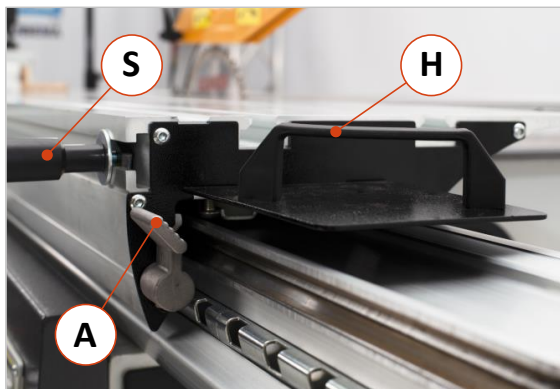

Figure 42: Operating the sliding table
- First lock the sliding table using the clamping lever (A), see ⇒ Figure 42.
- Insert the cross-cut carriage from the left side of the sliding table into the guide groove (F).
- Tighten both clamping levers (H) for fixation.
- If necessary, the cross-cut carriage can be aligned exactly with the sliding table using the screws (C). Use a spirit level for this purpose.